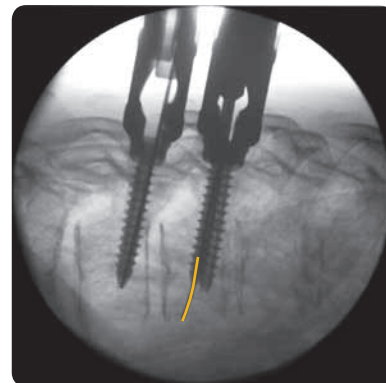

Figure 23
*Unintentional advancement of the Guidewire should be monitored during this step. To avoid this, ensure the direction of the Tap is in the same plane as the Guidewire (**Figure 23**). Cleaning the Guidewire prior to tapping and careful attention to other wire lengths can also help.*